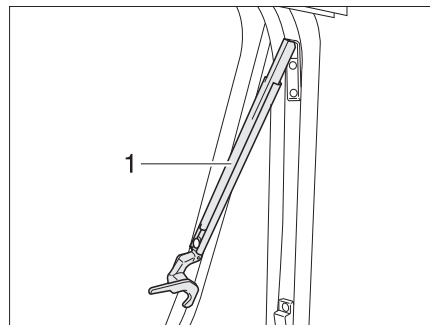

Fig. 9 Hinged window with automatic hinges, open
- Open the hinged window to the desired latched position. The automatic hinge (Fig. 9,1) locks in place automatically.